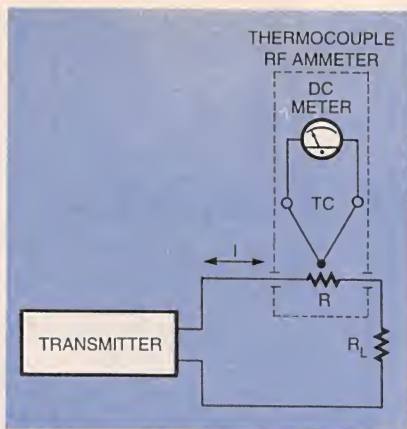

Fig. 1. The thermocouple RF ammeter relies on heating a very low value resistive heating element (R) to measure RF power.
RF Ammeter Methods. The thermocouple RF ammeter (see Fig. 1) is an inherently rms-reading device because it relies on heating a very low value resistive heating element (R). The temperature of the heating element is measured by a thermocouple device (TC in Fig. 1), which produces a voltage proportional to the temperature of the thermocouple junction. A DC voltmeter is used